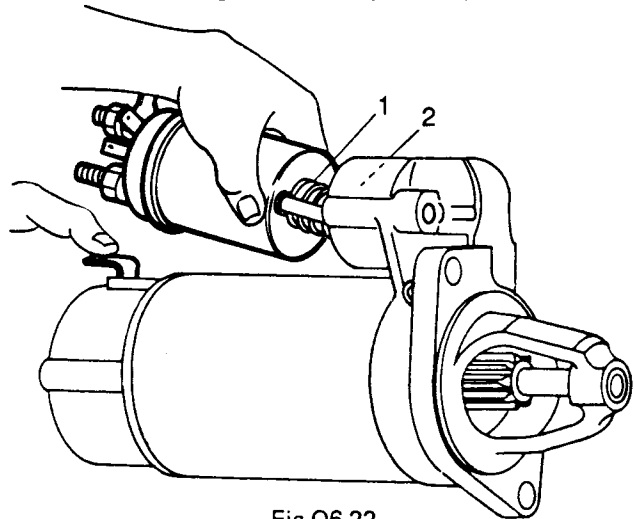

Fig O6.22
(4) Refer to Fig O6.22. Fit the solenoid plunger into the fixing bracket. Hold the plunger (1) and use a downward push to engage the drive engagement lever (2).